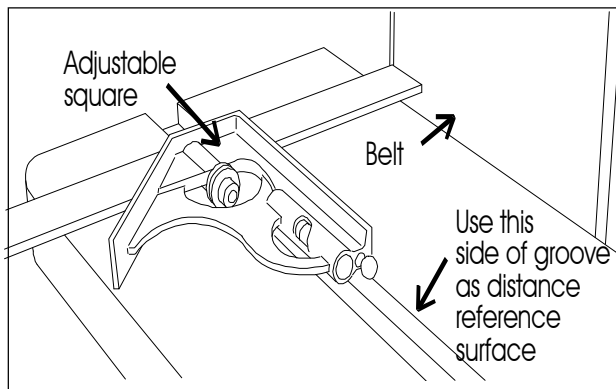

Figure 9: Angle scale and pointer
2. Flip out the stop bracket. (See Figure 9.)